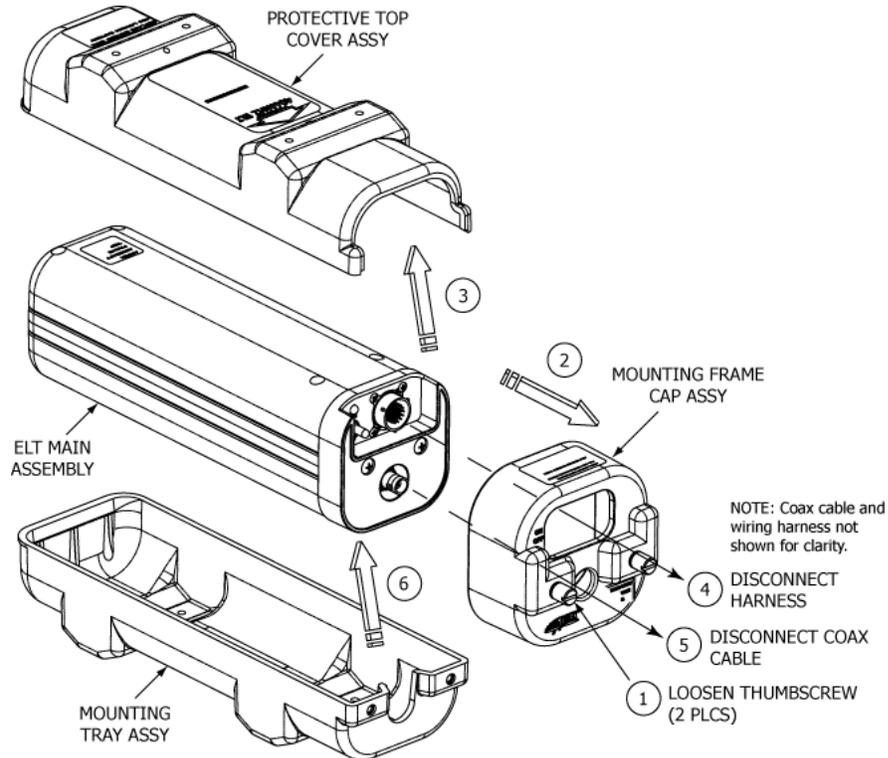

Figure 13 ELT Removal Sequence
- 1) See Figure 13 ELT Removal Sequence.